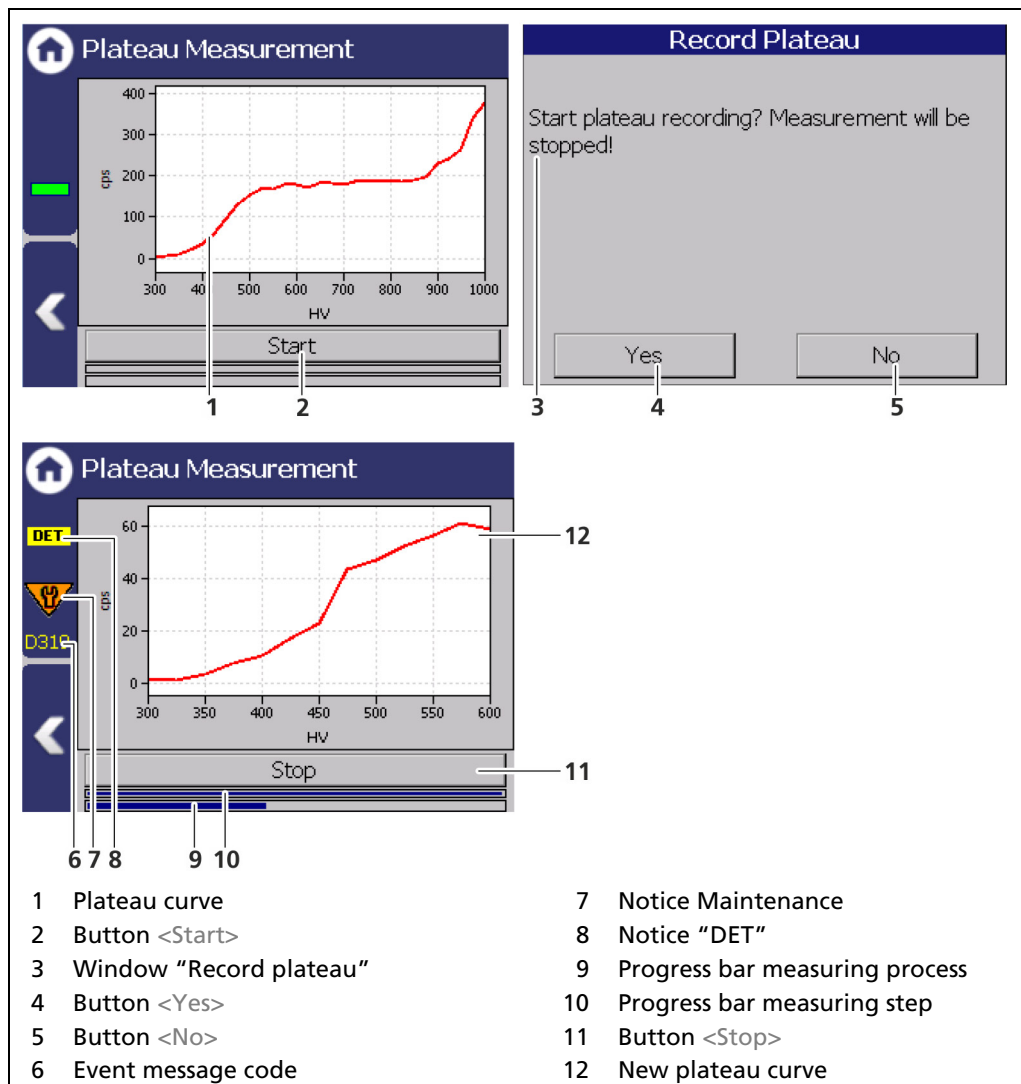

Fig. 49 Recording a plateau curve
1. Click on the corresponding input field (Fig. 49, item 1-4).